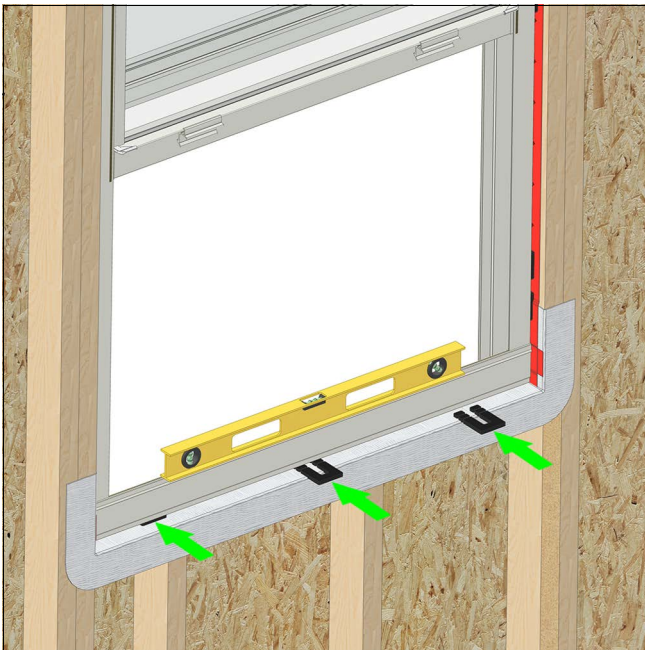

Figure 11
4. Center the window in the opening and ensure the unit is level at the sill. Then continue to add shims at each installation fastener anchor hole around the perimeter of the unit. See Figure 11.